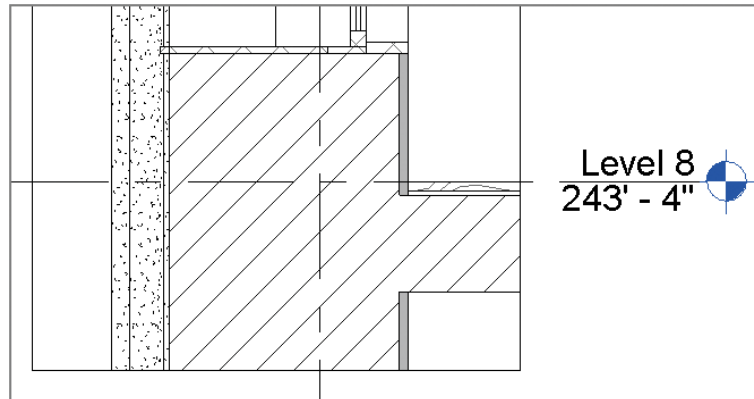

FIGURE 11.5 Adding the filled region
5. Click the green check mark  to complete the sketch. Your finished filled region appears highlighted and slightly transparent. Click off the region to see the finished product. When you do this, notice that the invisible line on the left doesn't cover the cut of the wall, and a thinner line remains. To cover the remainder of the existing wall, highlight the filled region again and use the Nudge tool (the arrow keys on the keyboard) to move the region over slightly. The finished region looks like Figure 11.5.